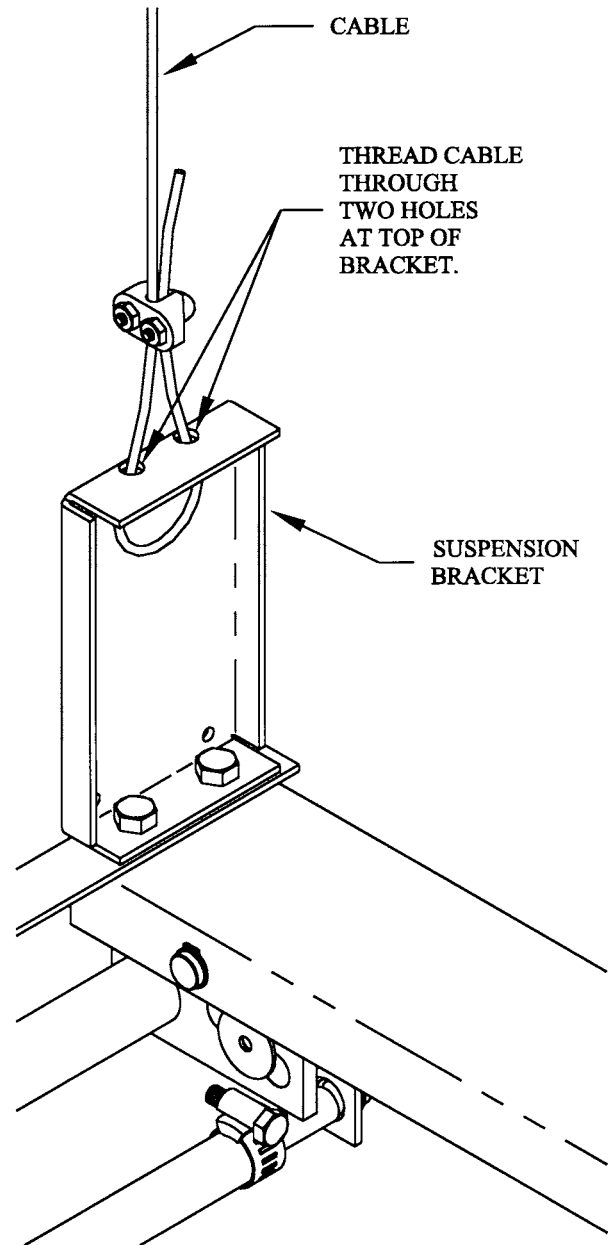

FIG. 6
STEP 6. (This step is for scales using the standard type hopper – for scales using low profile hoppers, skip to step 7) The scale is suspended from four suspension brackets. Thread the cable in and out through the two holes found at the top of the brackets. See Fig. 6. Be sure the scale is installed level.